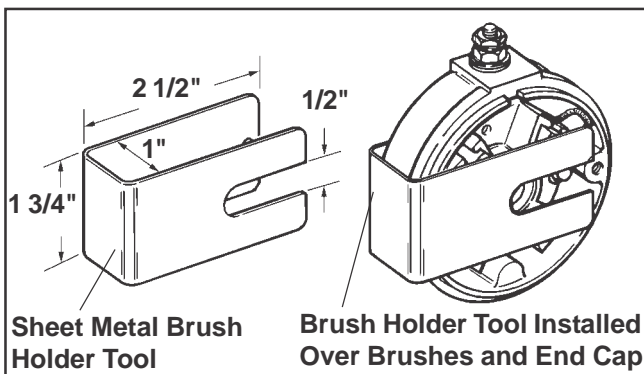

Figure 8-16. Brush Holder Tool (Style "A" End Cap).
**NOTE:** Use a brush holder tool to keep the brushes in the pockets. A brush holder tool can easily be made from thin sheet metal. See Figure 8-16.